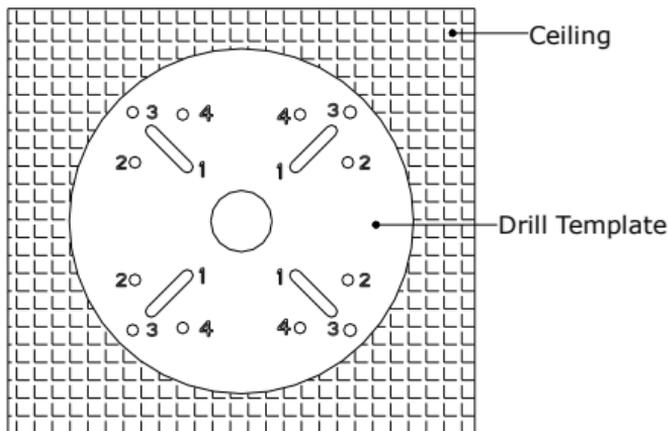

Figure 2-3 The Drill Template
2. According to the circles on the drill template as shown in Figure 2-3, drill screws holes in the ceiling on your demand.